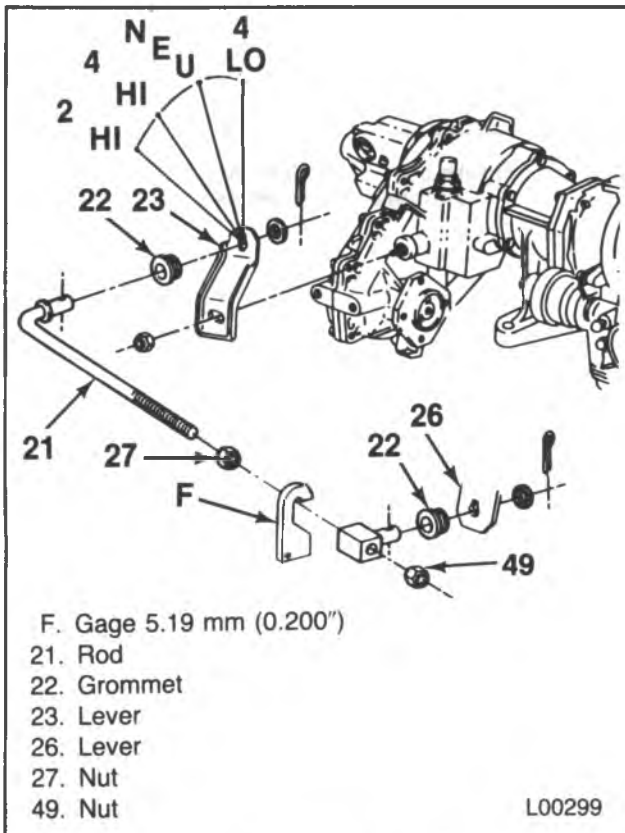

Figure 4 — Linkage Adjustment
Adjust (Figure 4)
1. Put the transfer case lever into the 4H detent (Figure 4).
2. Push the lower shifter lever (26) forward into the 4H detent.
3. Install the rod swivel (21) into the shift lever hold.
4. Hang a 5.19 mm (0.200) gage (F) with a 6 mm (0.25 inch) radius over the rod behind the swivel.
5. Run the rear rod nut (27) against the gage with the shifter against the 4H detent.
6. Remove the gage and push the swivel rearward against the nut (27).
7. Run the front rod nut (49) against the swivel and tighten.